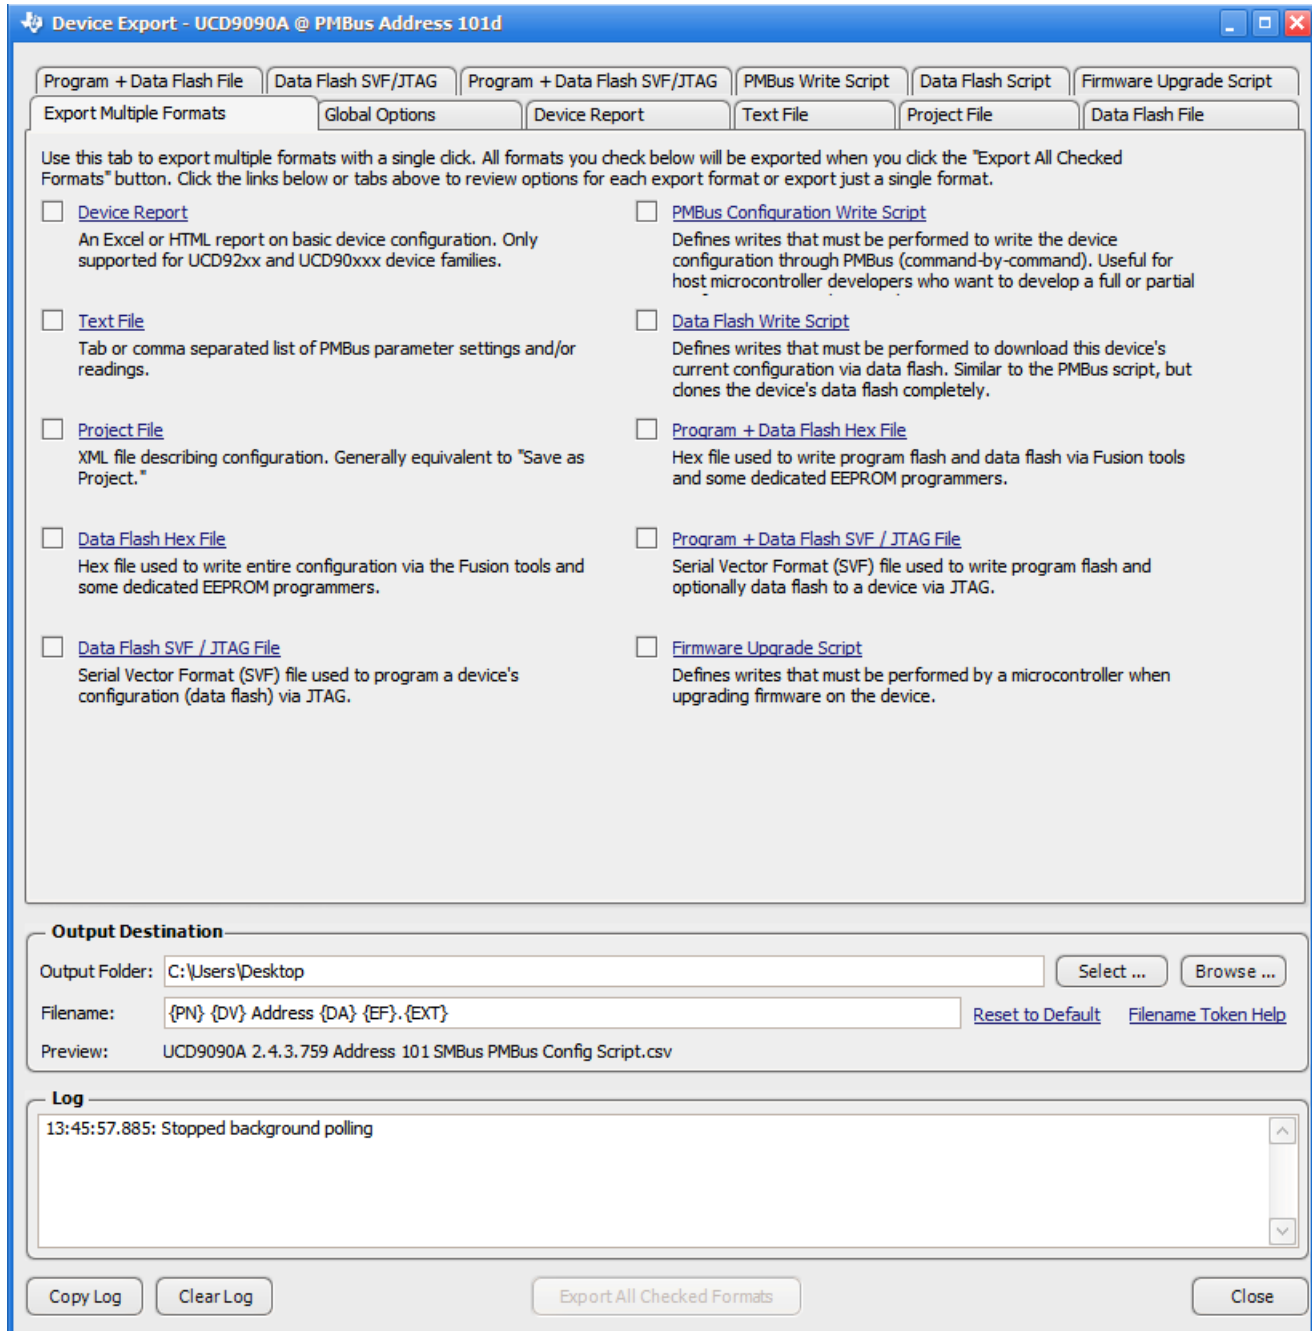

图 7-29. Fusion GUI Device Configuration Export Tool
- Another in-circuit programming option is for the *Fusion GUI* to create a data flash image from the configuration file (图 7-29). The configuration files can be exported in Intel Hex, data flash script, Serial Vector Format (SVF) and S-record. The image file can be downloaded into the device using I²C or JTAG. The *Fusion GUI* tools can be used on-board if the *Fusion GUI* can gain ownership of the target board I²C bus. It is recommended to use Intel Hex file or data flash script file for production programming because the GPIOs are under controlled states.